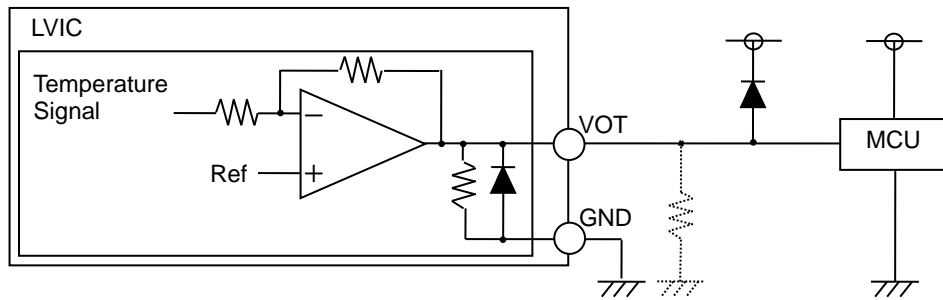

Figure 16. Example of VOT External Circuit
7) VOT pin (Refer to Figure 16)